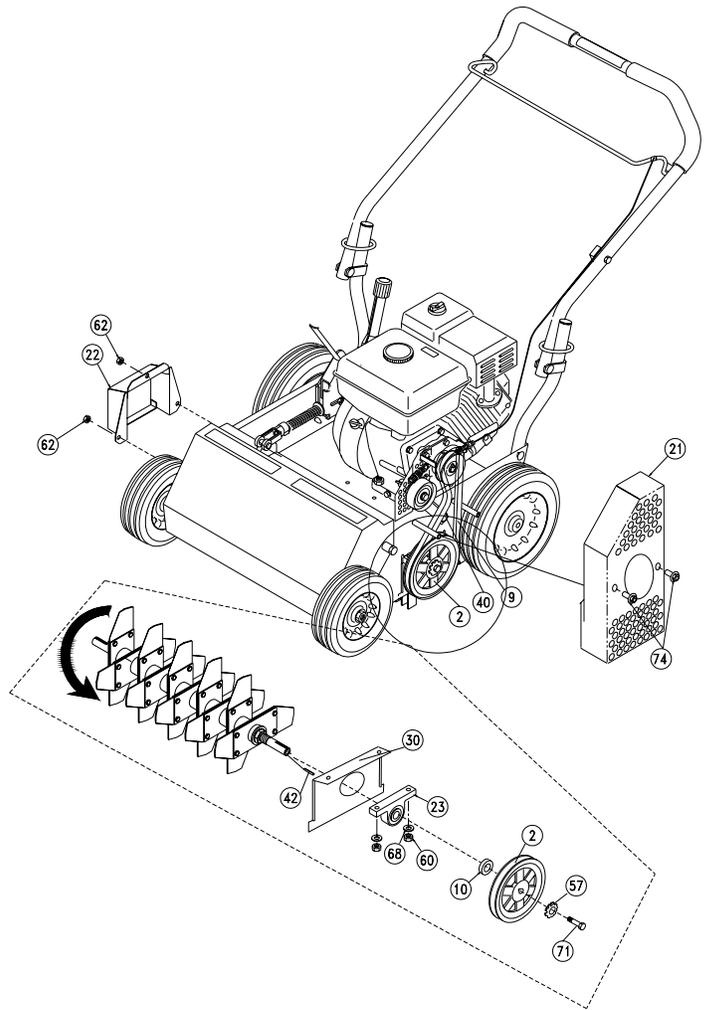
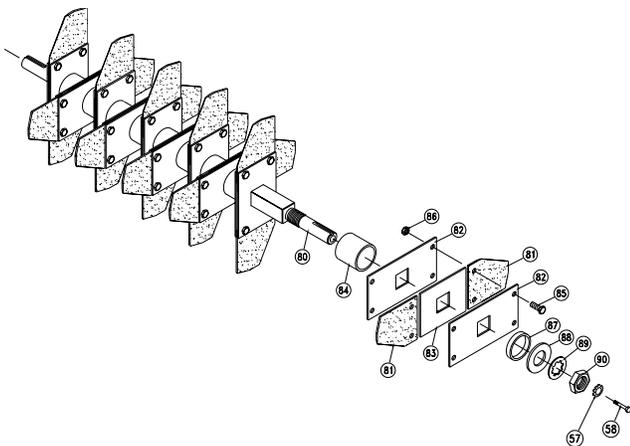

Fig. 1
Fig. 2
4. Remove (7) lock nuts (item 62 & 40) holding the belt and shaft guards (item 21 & 22) in place. It is necessary to lower the height adjust lever to reach the locknuts on the guards. Remove the guards.
5. Remove the drive belt (item 9) by "walking" it out of the groove on the reel pulley (item 2).
6. Remove the (4) lock nuts (item 60) and washers (item 68) holding the bearings (item 23) to the frame of the unit.
8. Assemble reel fig.2. After assembly reattach items in fig.1 in the sequence shown. The shield bearing (item 30), pillow block bearing (23), spacer (10), pulley (2), washers (68), nuts (60) can be reused if they are not damaged. The lock washer twisted tooth p/n 400502 (57), screwcap reel pulley p/n 8041050 (71), and key 3/16" x 1" p/n 9201078 (42) must be replaced. **Note:** pulley, key and spacer must be inserted only onto the side of the reel that will be driven by the engine. The angled edge of the blades should be facing the direction in fig. 1 to dig into the ground otherwise the machine will not perform the proper function. See rotation arrow.